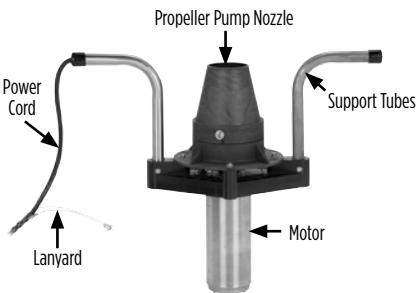

Figure 2
- ii. Rotate the pump/motor assembly so the power cord is oriented with the power cord channel in the float (Figures 2 and 3).
- v. Connect lanyard to eye-bolt of float (Figures 2 and 3).
- a) Disconnect the lanyard to detach the power cord from the float (Figure 2).
- Rotate the pump/motor assembly so the power cord is oriented with the power cord channel in the float (Figures 2 and 3).
- Connect lanyard to eye-bolt of float (Figures 2 and 3).
Step 4 Inspect, clean, and remove any build-up on the motor (motor shown in Figure 2).